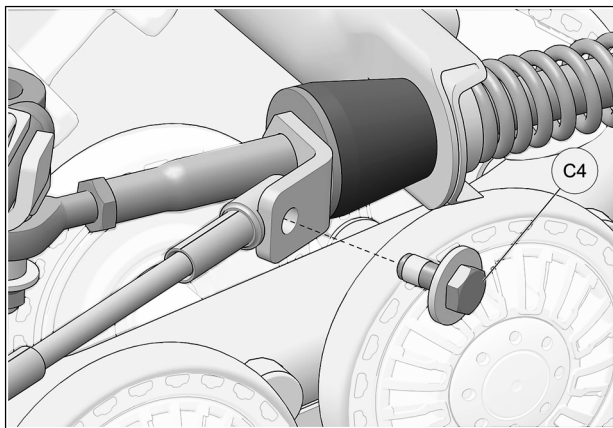

Fig. 28
16. Reverse steering wheel a little to be able to bolt support plate and cable together. Tighten provided bolt (C4) to 35 N•m [24 lb•ft]. See Fig. 28. Repeat steps on right side.